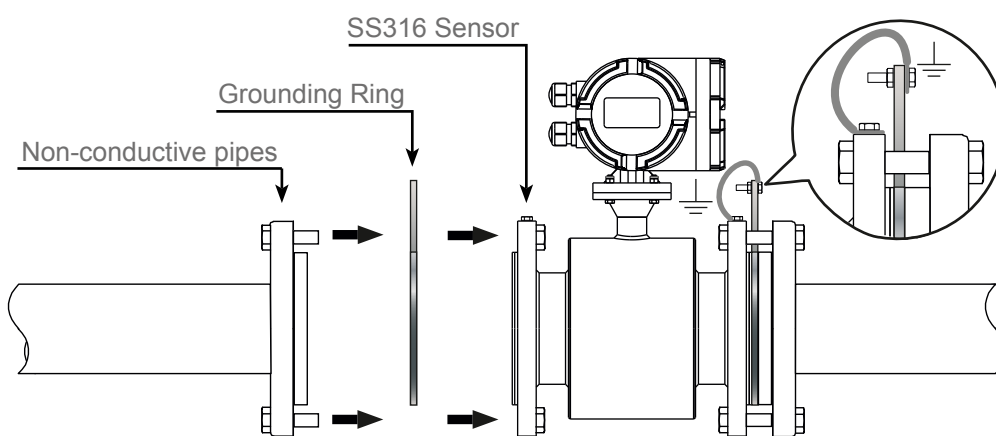

Fig.18B Grounding with non-conductive pipes
- For the non-inductive pipe, the grounding rings should be installed between the both flanges for sensor and the both flanges for pipe. See **Fig.18B**.